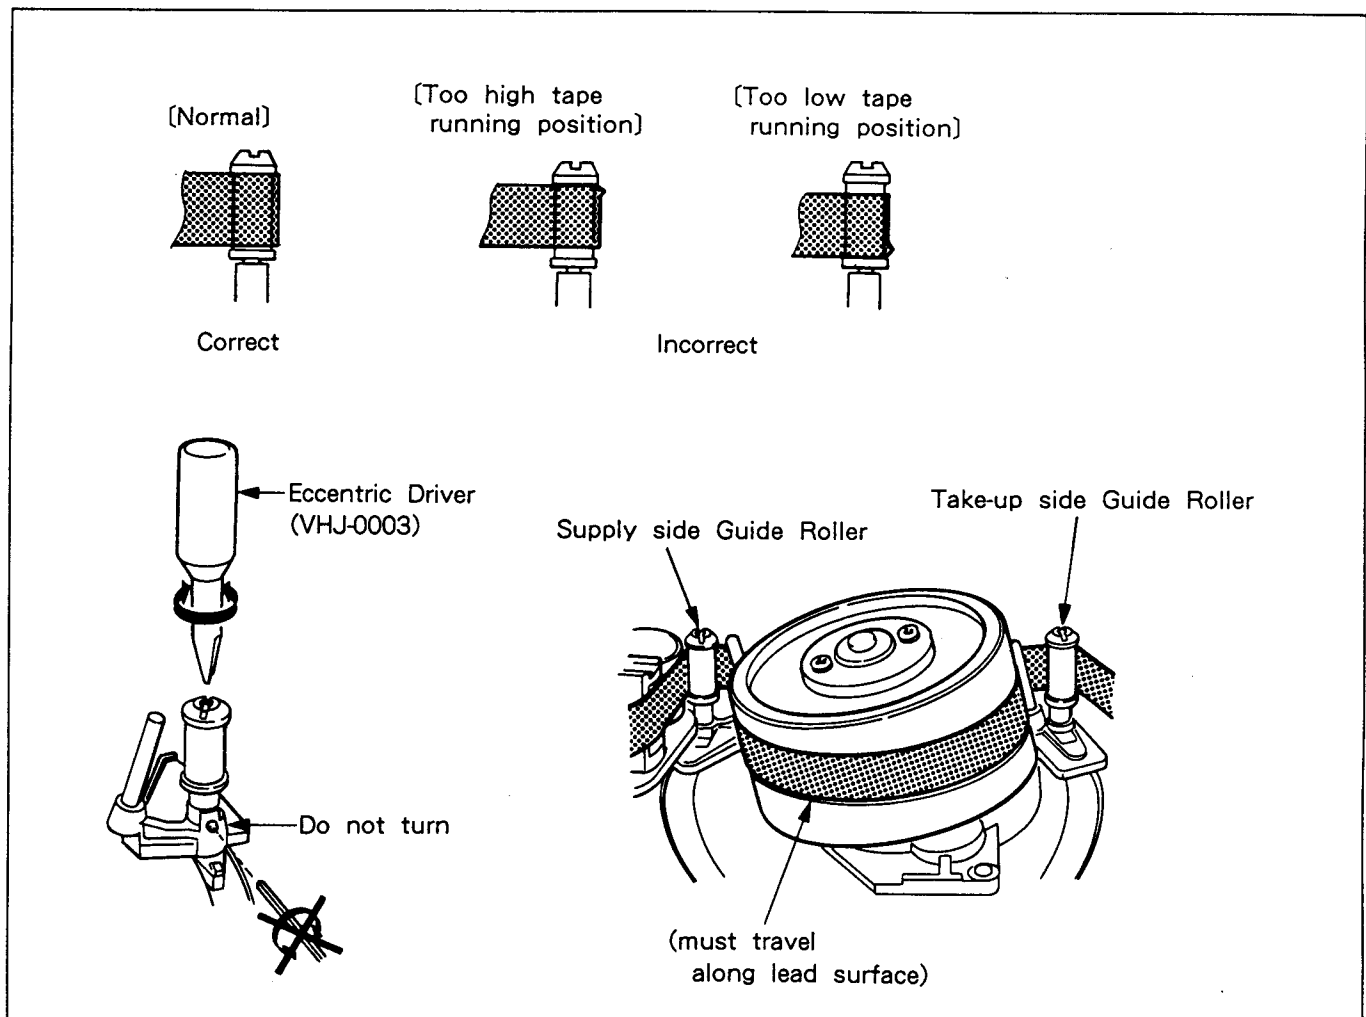

Fig. 5-4-3. (2) Pre-set for Guide Roller
(2) Guide Rollers (See Fig. 5-4-3.)